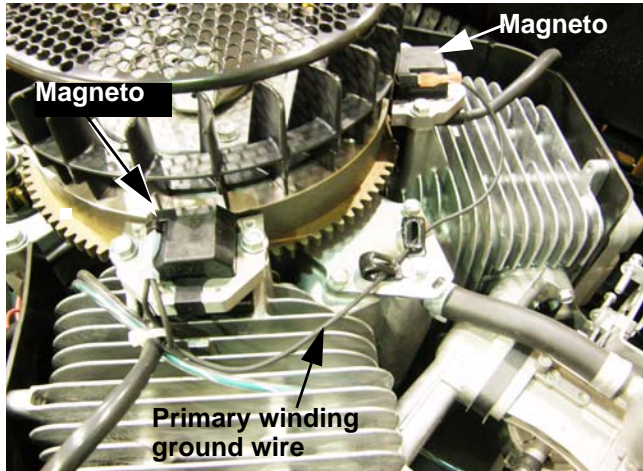

Figure 7.9
1. The ignition sparks are generated by an **ignition module**. The ignition module will work as long as the primary windings are not grounded. With the key switch in any position other than OFF, there is no connection between the M (Module) terminal and the G (Ground) terminal. See Figure 7.9.